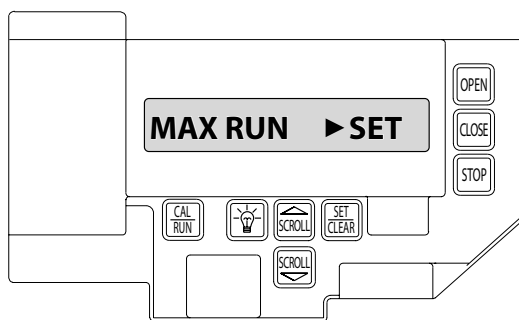

FIG. 5
2. Press SCROLL (up or down) until display reads MAX RUN TMR > SET. FIG. 5.